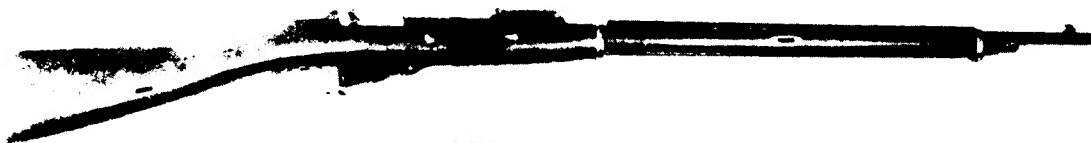

FIGURE 1. 7.62-MM RIFLE M1891.
a. The original rifle M1891 was considerably different than later versions of the same model. The original rifle M1891 had no handguard, was fitted with sling swivels instead of the sling slots used on later versions, and had a leaf rear sight which was designed for the old conical-nosed 7.62-mm ball cartridge. In 1908 the Spitzer pointed light ball round (which is still used) was introduced and the rear sight was changed. About this time handguards were added and the swivels were replaced by sling slots bored in the stock. The original M1891 is now a collector's item, and is unlikely to be encountered in the field. The later versions of the rifle M1891 (fig. 1) are no longer being manufactured, and are believed to be obsolete.
The rifle M1891 (fig. 1) is the basic bolt action model. Later bolt action rifle and carbine models are variations and attempted improvements of the M1891.